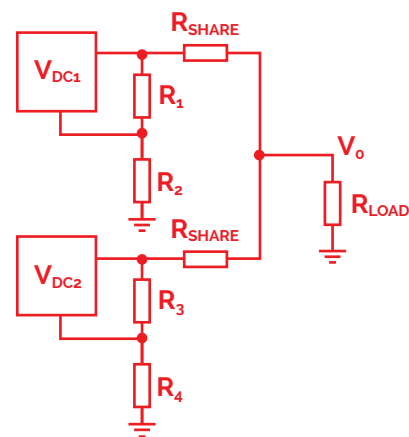

Figure 19. Balancing resistors share load between DC-DC converters
- Balancing resistors provide a way for sharing a load either between two or more DC-DC converters. Operating DC-DC converters in parallel may be more cost effective than using a single higher-current unit or may be more desirable in some instances because of physical size constraints or thermal considerations. However simply tying the outputs of two converters together does not ensure they share the load current equally. The equal value R_{SHARE} resistors shown in figure 19 accommodate the difference between the regulated outputs of each converter.